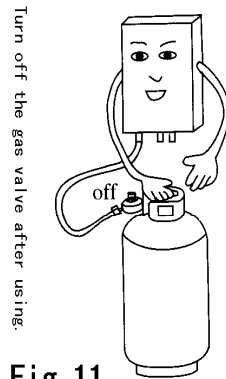

Fig. 11
- Turn off the gas valve after each use. (Fig.11)
- Do not forget to turn off the gas valve after use (Fig. 11)